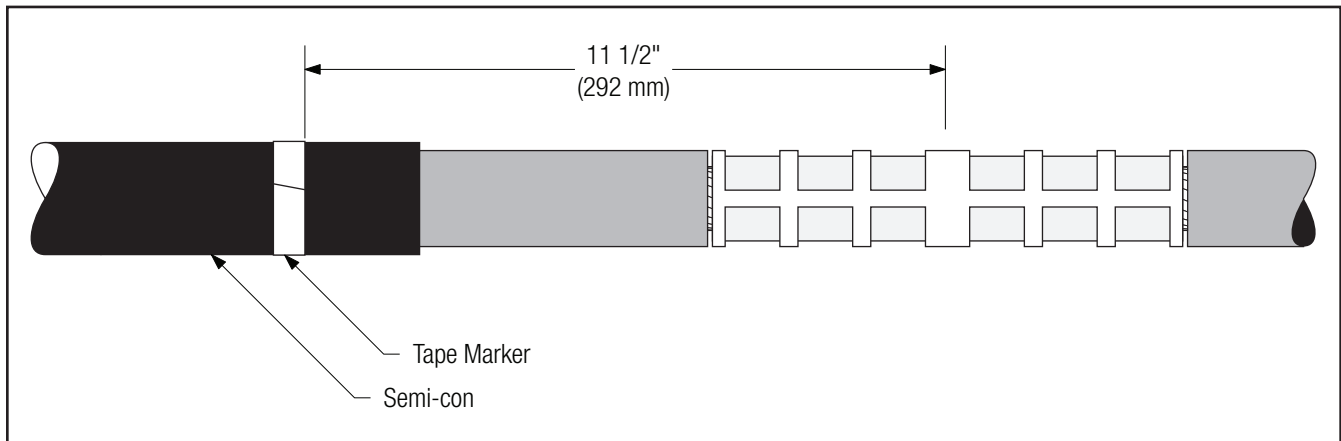

Figure 13
- 4.1 Apply a tape marker to semi-con insulation shield on cable which does not contain splice. Measure 11 1/2" (292 mm) from center of connector (*Figure 13*).